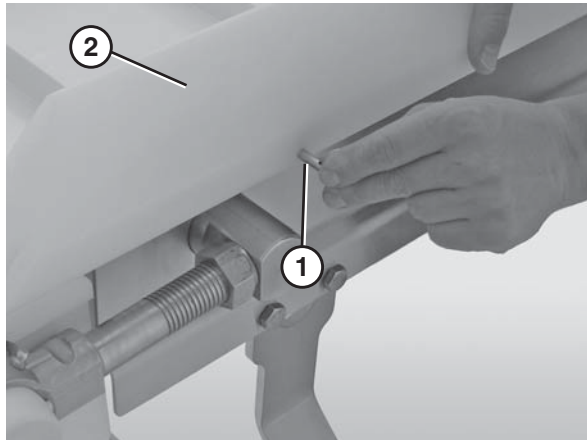

Figure 36
1. Remove the guides, if applicable, by removing the pull pins (Figure 36, item 1) that connect the guide (Figure 36, item 2) to the frame.